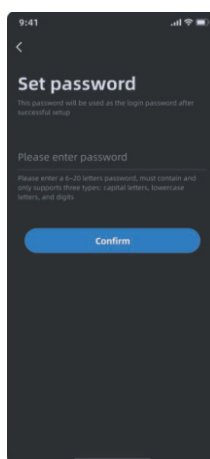

Figure 6
6)Figure 6: Enter the required password and click "**Confirm**" to complete the registration.